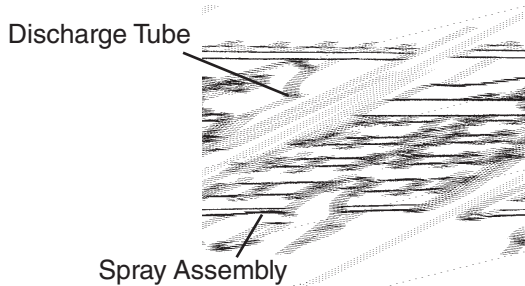

Fig. 40
- 7) Disconnect the discharge tube from the spray assembly, then slide out the spray assembly. See Fig. 40.